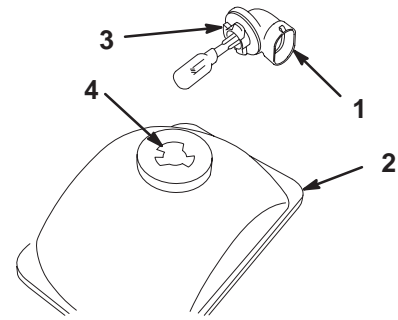

Figure 35
2. Reach beneath the dash and rotate the lamp assembly 1/4 turn counterclockwise (Fig. 35). Pull the lamp assembly out of the reflector.
5. Reach beneath the dash and align the three tabs on the lamp assembly with the slots in the reflector (Fig. 35). Insert the lamp assembly into the reflector and rotate it 1/4 turn clockwise until it stops.